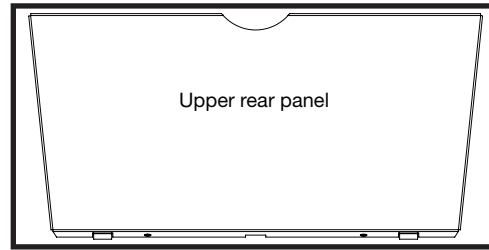
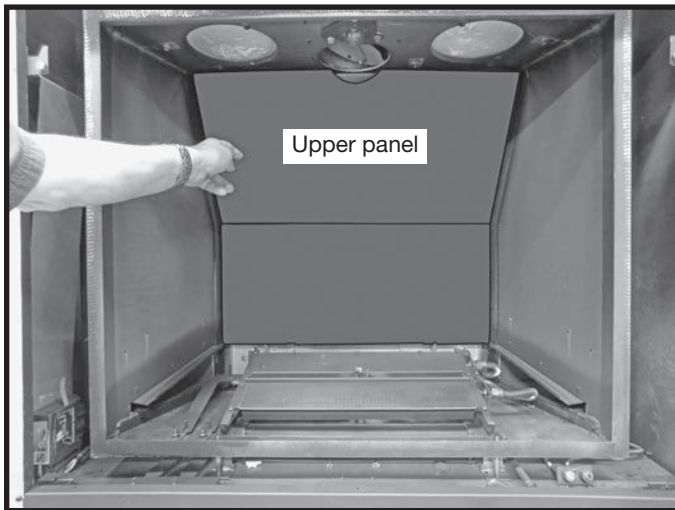
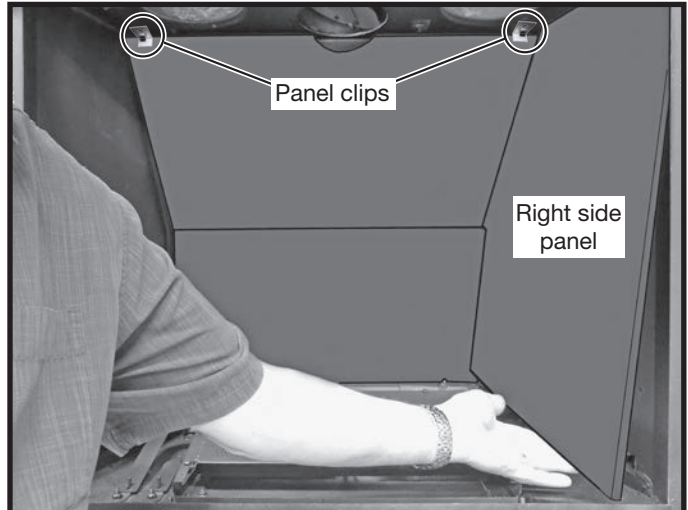
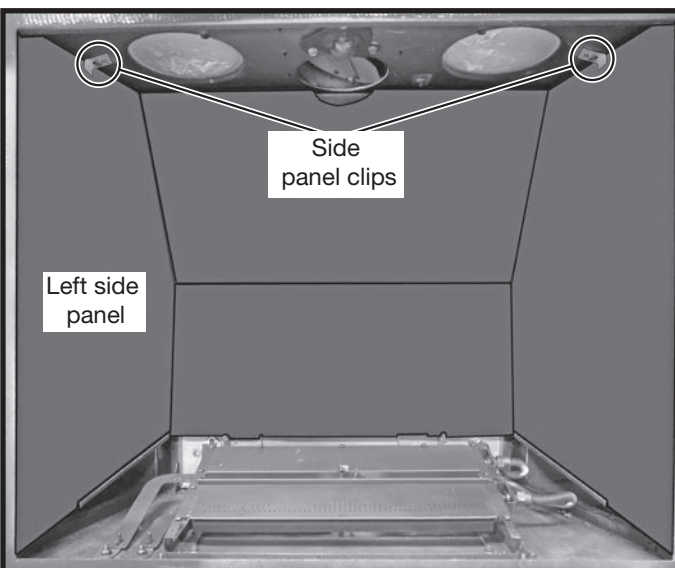

Figure 48: Upper panel.
Figure 53: Upper panel in place.
Figure 54: Right side panel in place.
Figure 55: Left side panel in place.
3. Holding the lower rear panel in place, position the upper rear panel so that it is against the rear wall and on top of the lower rear panel (Figure 53). There are two tabs on the bottom of the upper rear panel (Figure 48). These tabs will fit into the two notches on top of the lower rear panel. Secure the upper rear panel using the included panel clips (Figure 54).
4. While supporting the rear panels, insert the top edge of the one of the side panels into the upper corner of the firebox (Figure 54). Maneuver the lower edge of the panel into one of the panel holders located on each of the side walls. Repeat this step for the other side panel. Secure the side panels using the included panel clips (Figure 55).